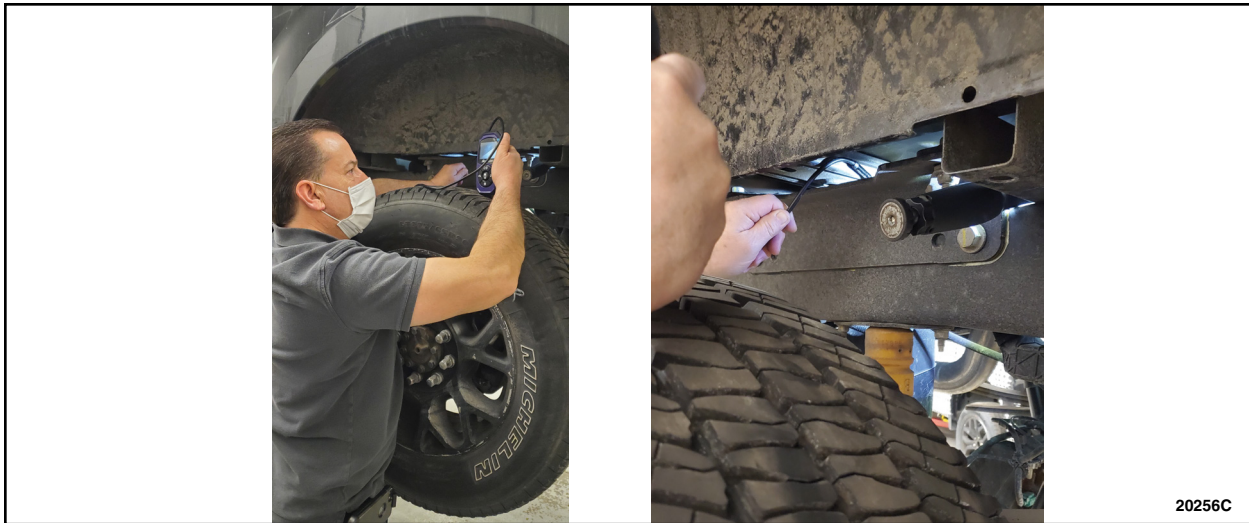

FIGURE 3
4. Using a borescope camera, inspect the LH 5th wheel inner bracket welded to the inside of the frame. Does the bracket appear to have a split in it? See Figures 3 and 4.